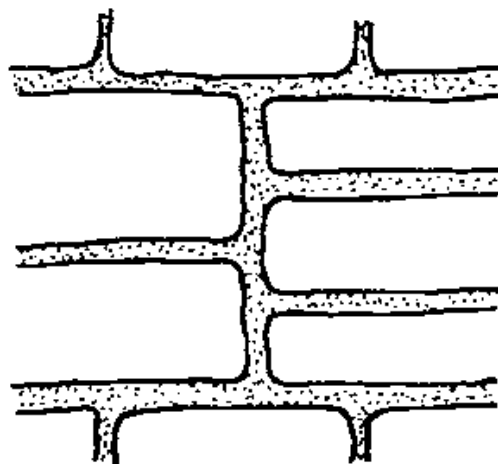

Fig. 4 WRONG!
- Also avoid making a group of continuous cross joints in one course (Fig. 4), as this creates an unpleasant appearance and an impression of a separation. A better arrangement is shown in Fig. 1.